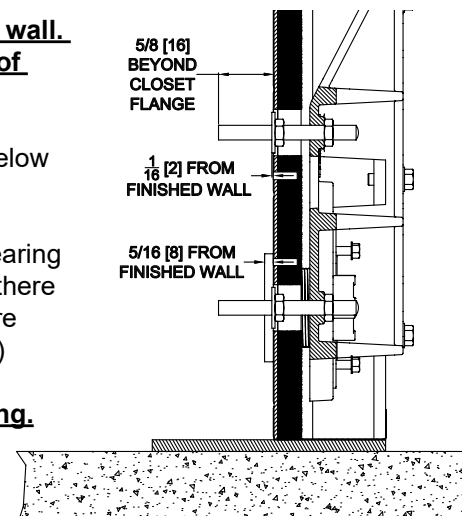

Figure 7
- Wall mount water closet will use (4) 5/8" threaded rods and rods should extend no more than 5/8" [16] past the closet bowl flange. The holes in the finished wall should be sized appropriately to accommodate backing nut and washer adjustment, approximately 1-3/4" [44.5]. The 4 locknuts to be torqued to 70-75lb-ft [94.9-101.7 N-m].
- Floor mount back outlet water closet will use (2) 3/8" threaded rods and rods should extend no more than 5/8" [16] past the closet bowl flange. The holes in the finished wall should be sized appropriately to accommodate backing nut and washer adjustment, approximately 1" [25.4]. The 2 locknuts to be torqued to 12-17lb-ft [16.3-23.1 N-m].
- Ensure the hole in the finished wall is large enough to accommodate the flange of the coupling, approximately 4-3/4" to 5" [120.7 to 127] diameter. Referencing the instruction on the O-ring bag, lubricate O-ring and coupling threads with provided lubricant. Insert O-ring into groove in faceplate and thread coupling into faceplate. Ensure coupling flange extends 5/16" [8] past finished wall. (Figure 7)
- For wall mount water closet, thread a 5/8" bearing nut and slide a bearing washer onto each of the (4) threaded rods. Adjust hardware so that there is a 1/16" [2] gap between the front of finished wall and back of fixture ensuring all bearing washers make contact with the fixture.(Figure 7)